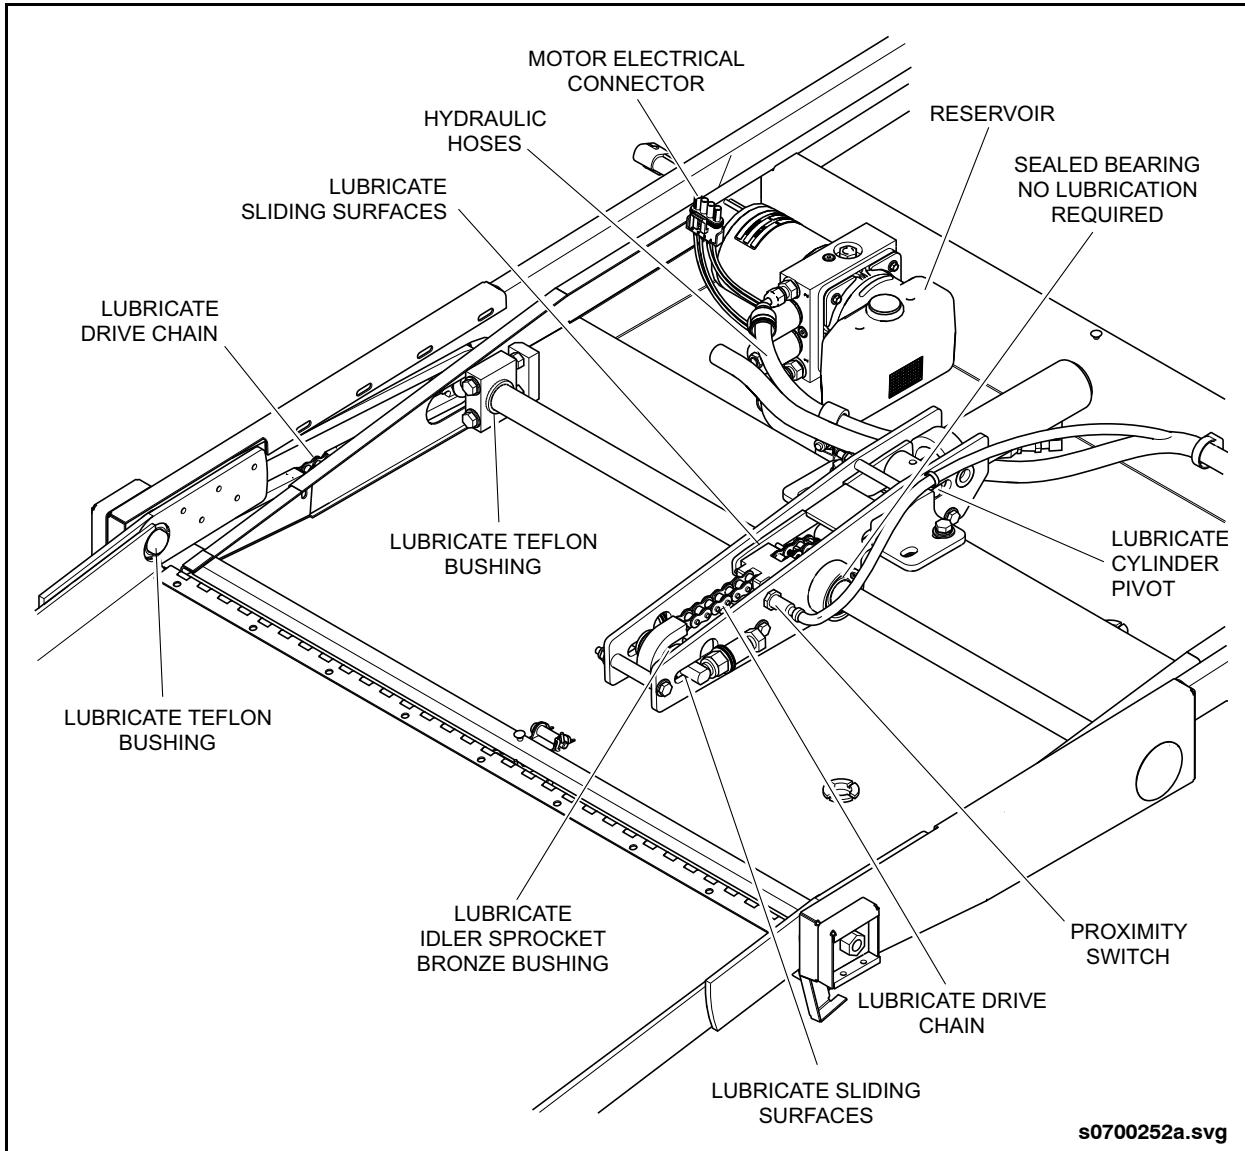

Fig. PM-23: Wheelchair Ramp Inspection
- Inspect ramp pump electrical connectors for condition and security. See "Fig. PM-23: Wheelchair Ramp Inspection" on page 53.